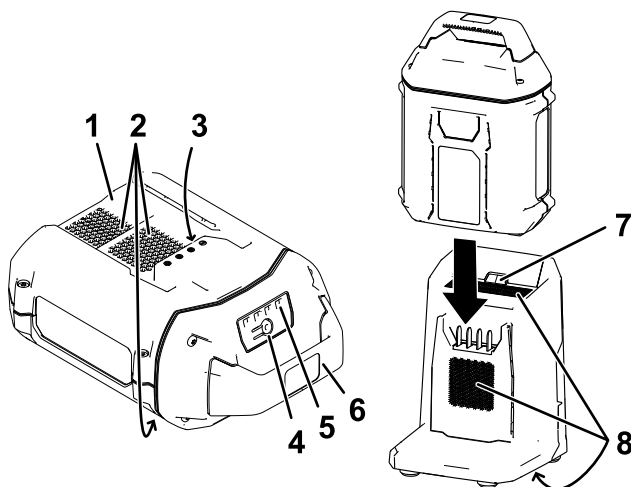

Figure 4
2. Line up the cavity in the battery pack (Figure 4) with the tongue on the charger.
3. Slide the battery pack into the charger until it is fully seated (Figure 4).